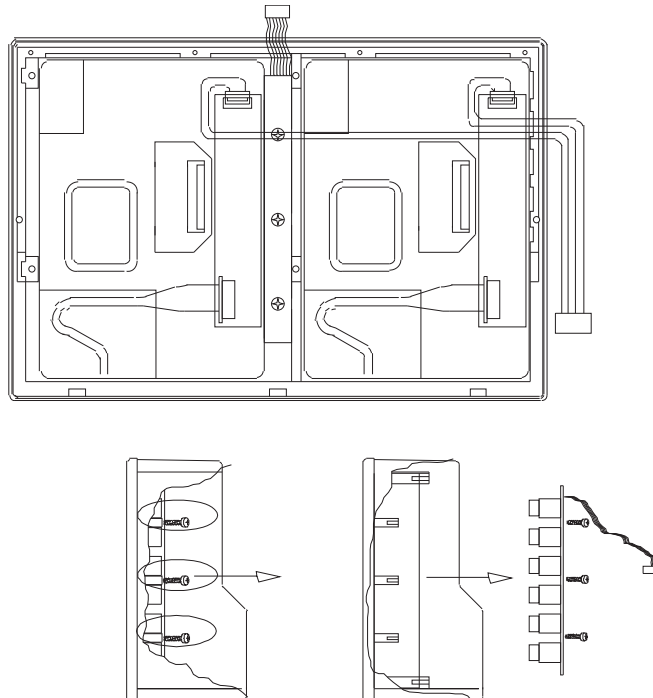

Fig. 8-17: Removal of switch pcb
8. Remove the fixing screws for the switch pcb and take board out of the frame. (fig. 8-17)